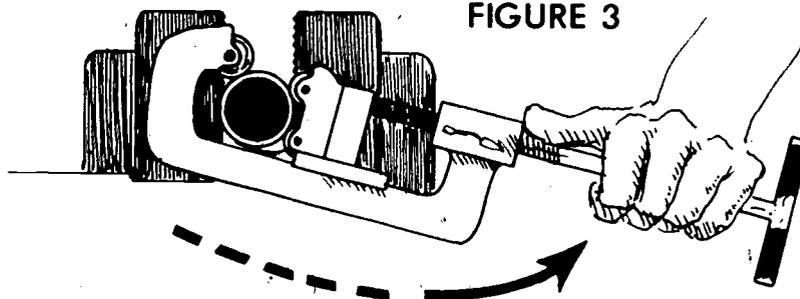

FIGURE 3
- G. Rotate cutter counterclockwise to start groove (Figure 3)